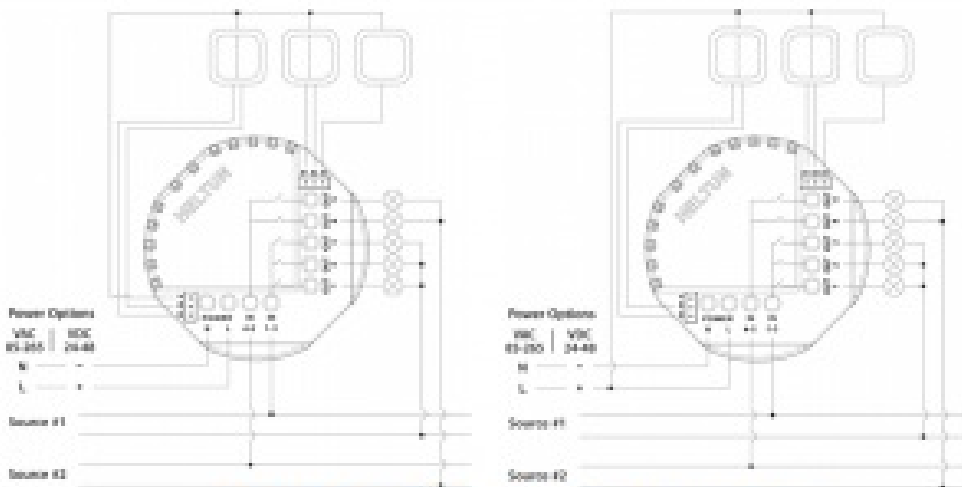

Figure 2: Power, Loads & External Switches Connection Diagram
2. Insert power wires into the HE-RS01 “POWER” terminals by inserting a small Phillips-head screwdriver in the slot beneath each terminal and unscrew to open. Follow Fig. 2: Connection
3. Next, connect terminals S1, S2, S3, S4, S5 to external control keys (switches) following **Fig. 2** left diagram or **Fig. 2** right diagram.
Note: In case of using **Figure 2** right diagram, it is MANDATORY to connect external switches to the same wire connected to terminal L on the device.